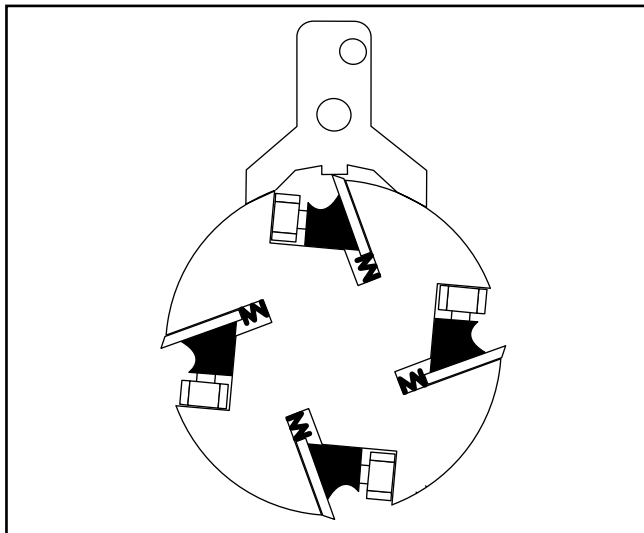

Figure 13. Knife height adjustment.
3. Using the knife adjusting jig, check the knife height. The jig should sit solidly with both feet on the cutterhead. **See Figure 13.** If the knife is adjusted properly, the contact point at the center of each adjuster should just touch the tip of the knife. If the knife does not make contact, or if the knife causes the adjuster's legs to not seat on the cutterhead, the knives need to be adjusted.